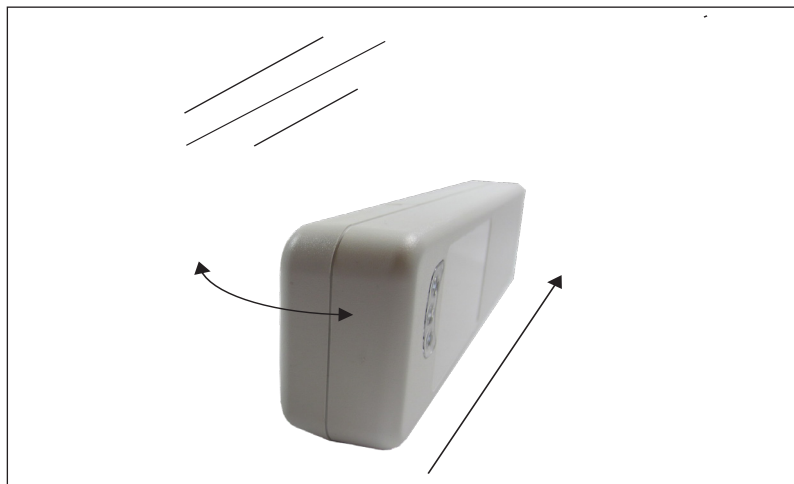

Figure 6 – Removing PocketPass from windshield
3. To remove a PocketPass mounted with Dual Lock strips from the windshield, grip the case at the top and bottom sides. Pull the PocketPass away from the windshield, starting on one end and working until the PocketPass is free from the windshield (Figure 6).